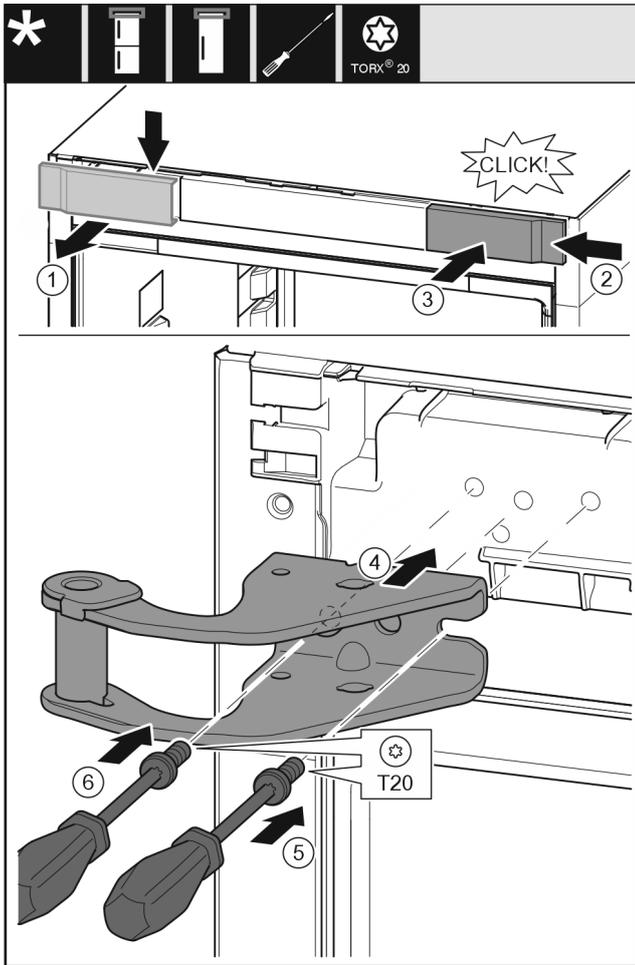

Fig. 13
- ▶ Take off the cover from above to the front. Fig. 13 (1)
- ▶ Rotate the cover 180° and clip onto the other side from the right. Fig. 13 (2)
- ▶ Latch the cover into place. Fig. 13 (3)
- ▶ Position the upper bearing bracket. Fig. 13 (4)
- ▶ Insert the screw with a T20 screwdriver and tighten it. Fig. 13 (5)
- ▶ Insert the screw with a T20 screwdriver and tighten it. Fig. 13 (6)